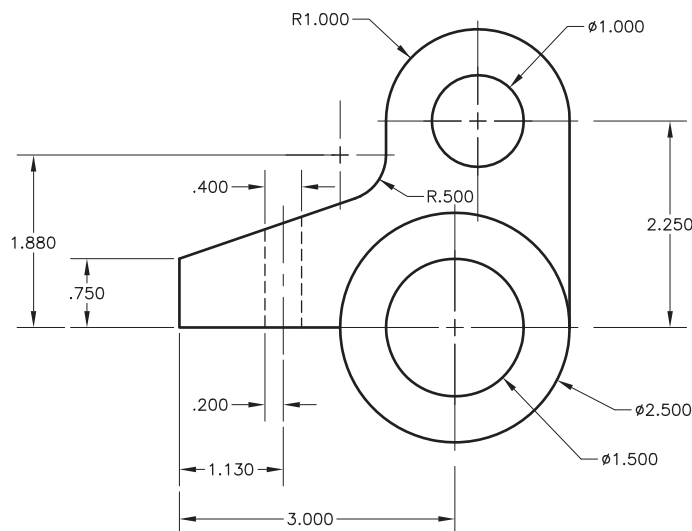

Fig. 29-2
1. Create a new drawing named **prb29-1.dwg**. Plan for a drawing scale of **1" = 1"** and sheet size of **11" × 17"**. After you apply the following settings, create and dimension the drawing of an aircraft door hinge component shown in Fig. 29-2. In addition to saving **prb29-1.dwg** as a drawing file, save it as a template file.